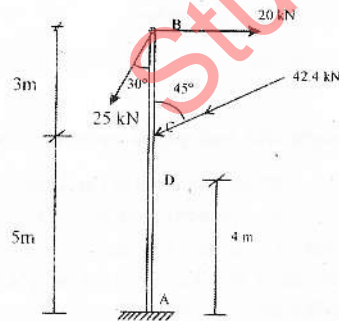

Fig. 2.
7. A vertical pole ACB is rigidly fixed at its base A and carries loads as shown in Fig. 2.